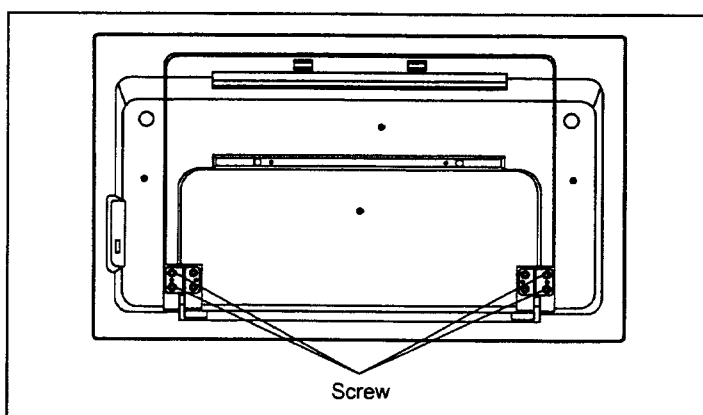

Fig. 5-10
- 4) Remove 4 screws, as shown in Fig. 5-10, and remove the printer lower cover (assembly) from the printer base.